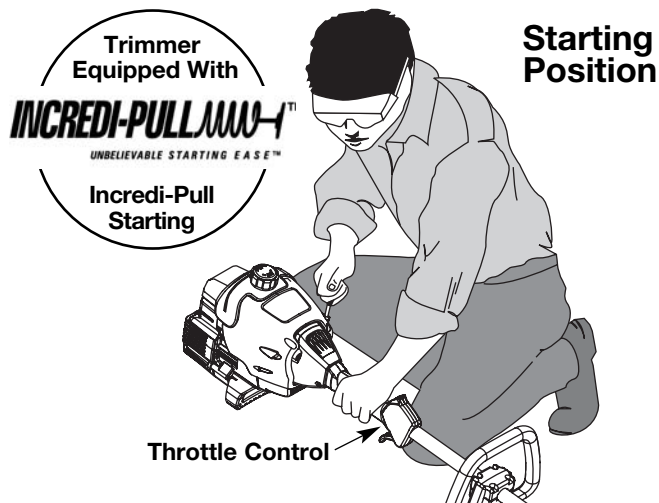

Fig. 6
WARNING: Avoid accidental starting. Make sure you are in the starting position when pulling the starter rope (Fig. 6). To avoid serious injury, the operator and unit must be in a stable position while starting.
4. Crouch in the starting position (Fig. 6), **do not squeeze the throttle**, and pull the starter rope with a controlled and steady motion until the unit starts. Wait 10 to 15 seconds, then squeeze the throttle to control the cutting or blowing speed.